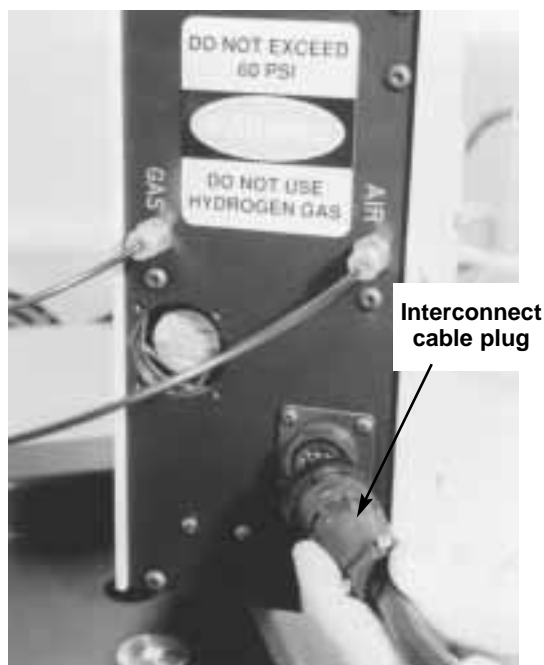

Fig 3.63 Installation of the interconnect cable (782010)
18. Plug the interconnect cable (Part #782010) into the back of the Desorption Unit. The cable is reversible so either end can be plugged into the Desorption Unit. See **Figure 3.63**.